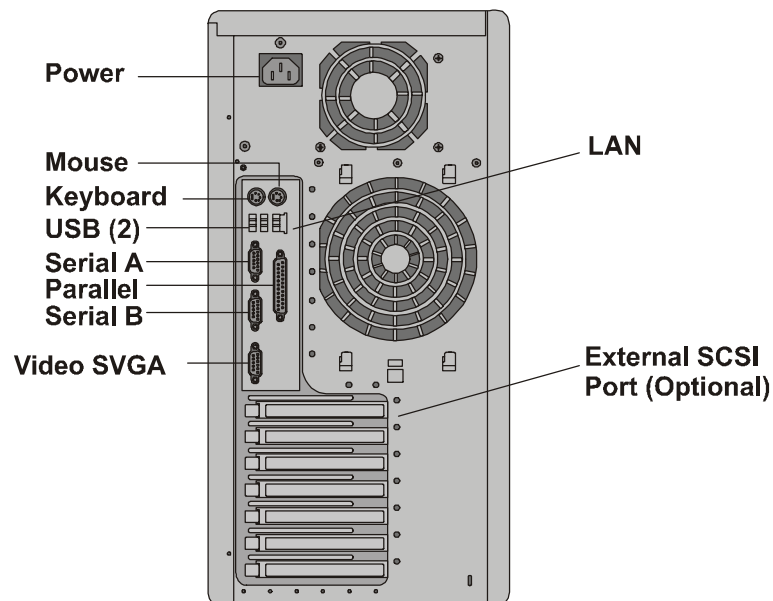

Figure 3-23. Rear Panel Ports
1. Connect the monitor, keyboard, and mouse to the HP Server tc3100 using the connections provided on the rear of the chassis. See Figure 3-23.